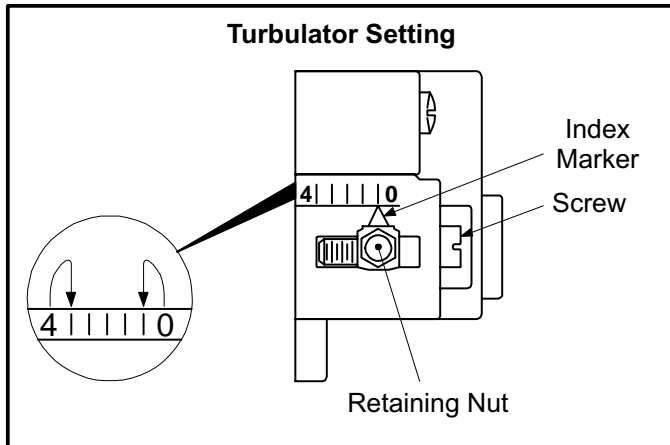

FIGURE 6
- 1 - Loosen nut and turn screw until index marker is aligned with number 2, which corresponds with desired input setting per table 1. See figure 6.
- 1 - Loosen the two screws which secure the plate in position. See figure 6.